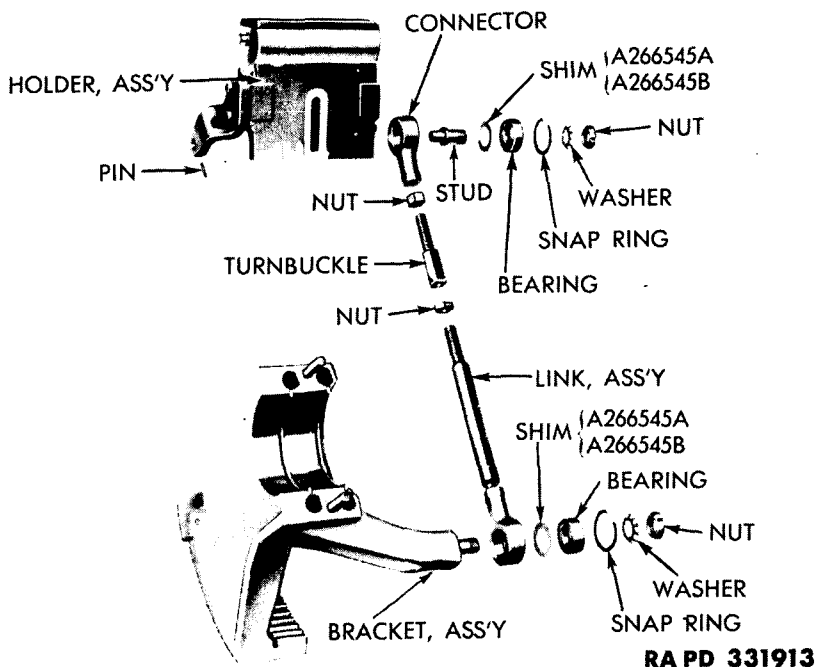

Figure 72. Periscope linkage, disassembled (M24).
a. DISASSEMBLY. (1) *Remove connector from periscope holder.* Using a small pin punch, drive dowel pin which holds stud in periscope holder bracket, out of bracket. Place a brass drift on end of stud and drive connector and stud assembly out of periscope holder bracket (fig. 72).